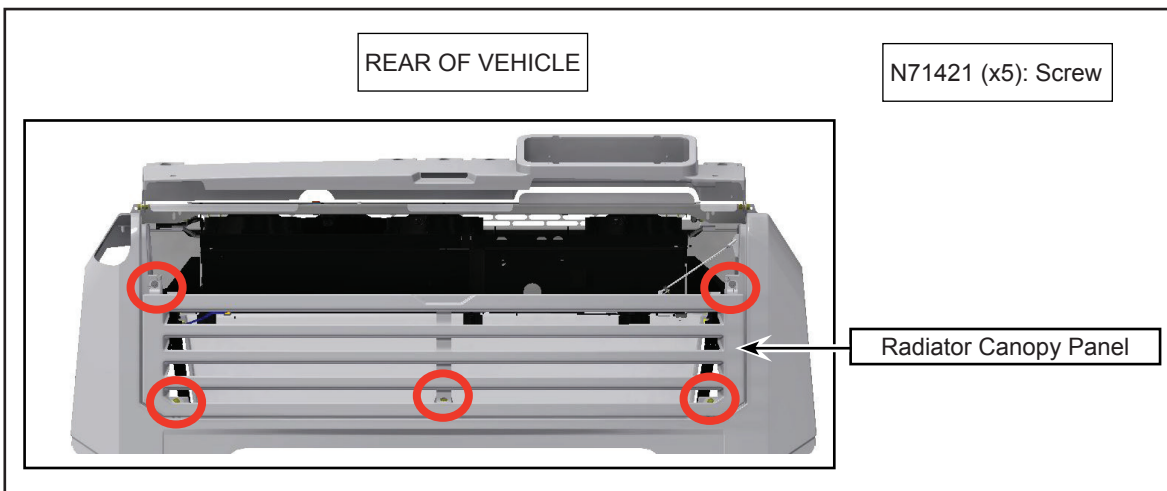

Figure 4 - Typical Location of Radiator Canopy Hardware
1.5. Identify the 5 locations where hardware is assembled to the panel (see Figure 4). Remove and retain the hardware.